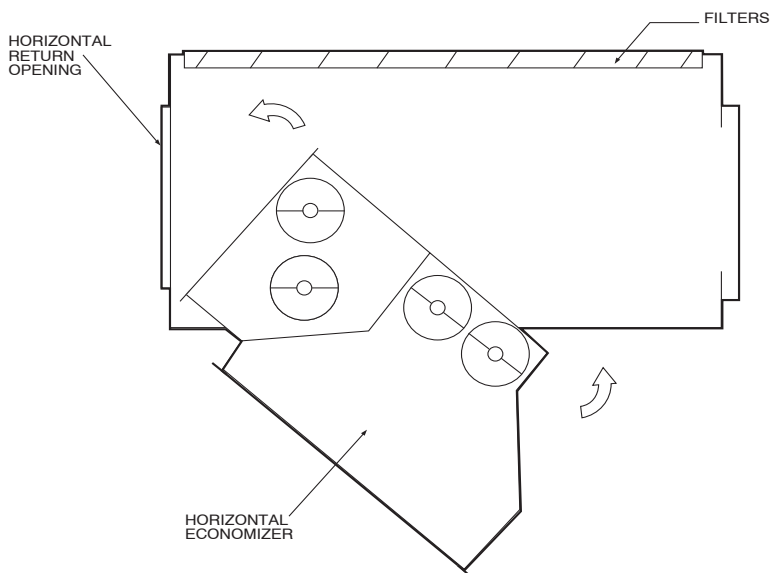

Fig. 13 – Horizontal Economizer Installation (Top View)
6. Slide the economizer assembly into the return air section of the rooftop unit as shown in Fig. 13. The front flanges of the economizer will be flush with the rooftop unit. Angle the return side of the economizer into the unit first. Slide the economizer in until the return damper covers the horizontal return air opening.